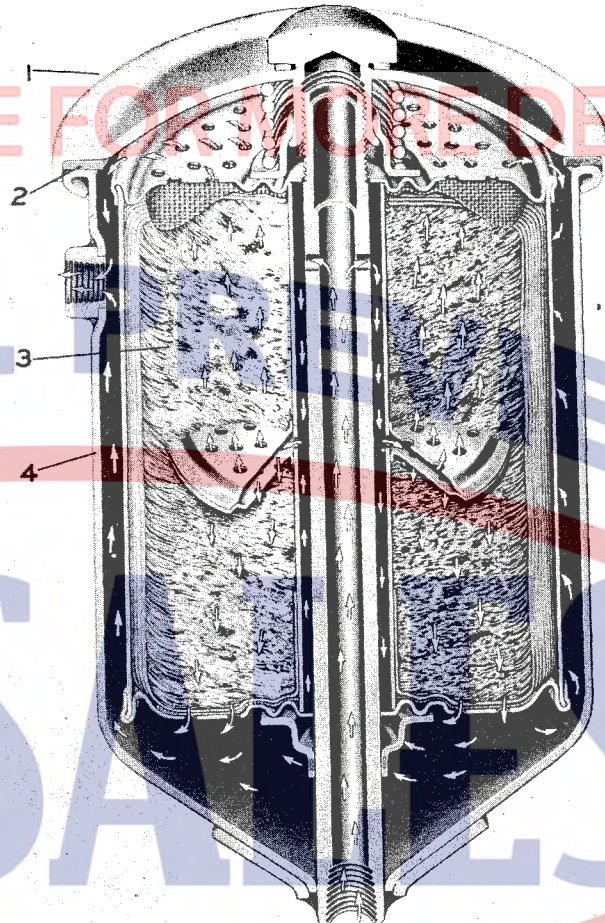

Figure 6—Oil Filter Case and Element N-16
(15) **OIL FILTER**—The oil filter (figure 6) is a Purolator, Model No. N-1601, is mounted on the left-hand side of the engine.